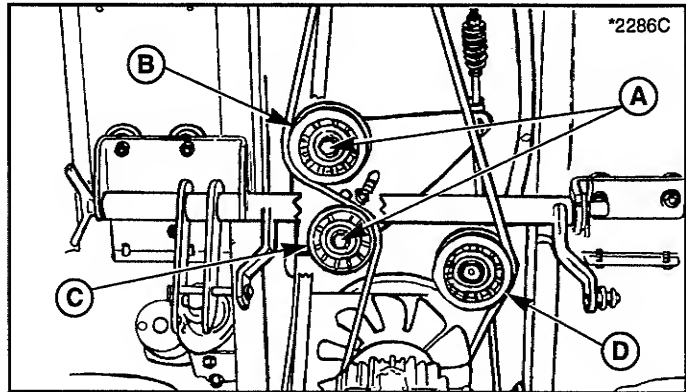

Figure 34. Drive Belt Idler Pulley
3. See figure 34. Loosen capscrews (A). Slip belt from between front V-pulley (B) and belt stop and from between rear idler pulley (C) and belt stop.